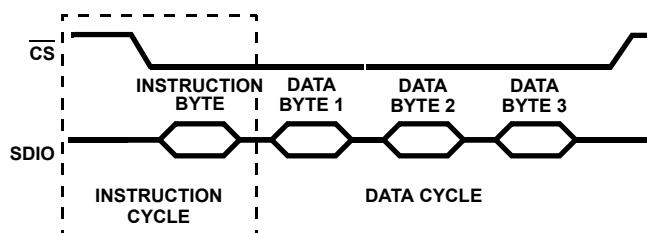

FIGURE 1. BYTE COMMUNICATION CYCLE
Communication with the HI7190 occurs in what are called communication cycles and each communication cycle contains two phases. Figure 1 shows that the first phase of every communication cycle is the writing of an instruction byte. The first eight SCLK rising edges of each communication cycle are used to write the instruction byte into the Instruction Register (IR). The instruction byte provides the HI7190 Serial Interface with information regarding the data transfer in phase 2 of the communication cycle. The remaining SCLK edges are used for phase 2 of the communication cycle. Phase 2 is the actual data transfer between the HI7190 and the processor.